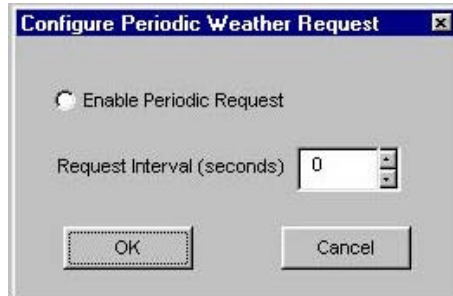

Figure 3.27 Periodic Weather Request
3. The “Configure Periodic Weather Report” window (Ref to Fig 3.27) appears. Select “Enable Periodic Request” and enter the report interval in seconds between weather data requests. Click “OK”.